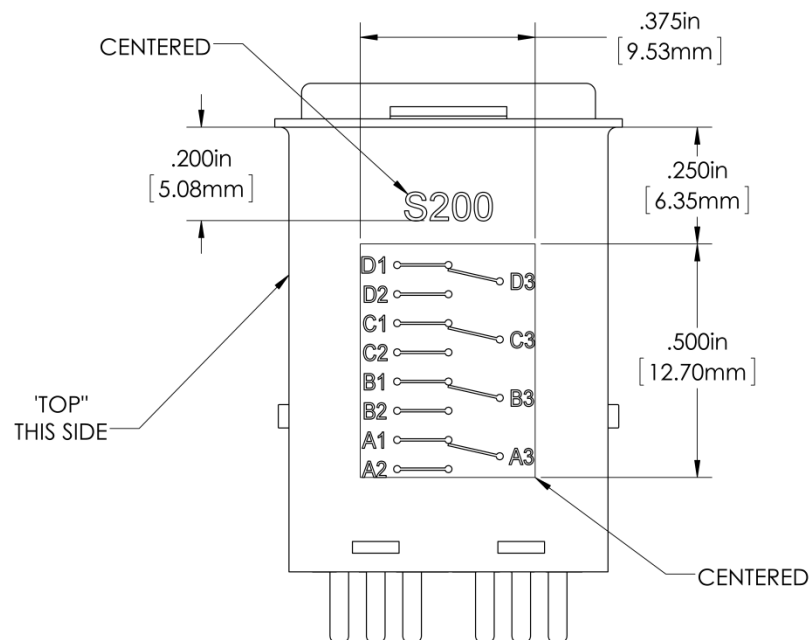
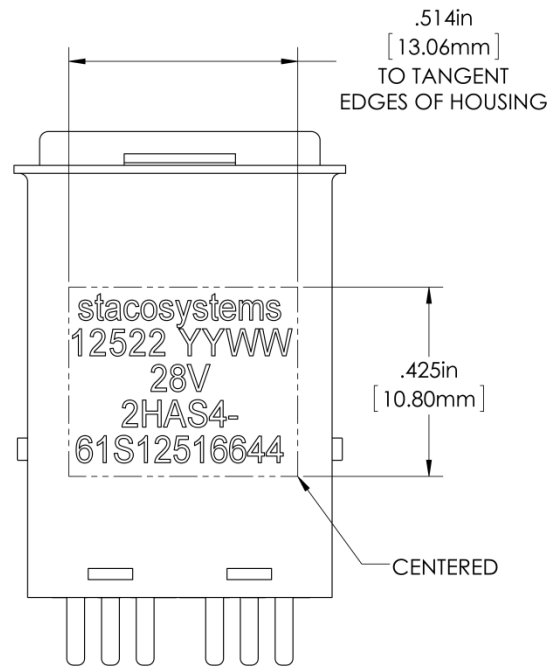
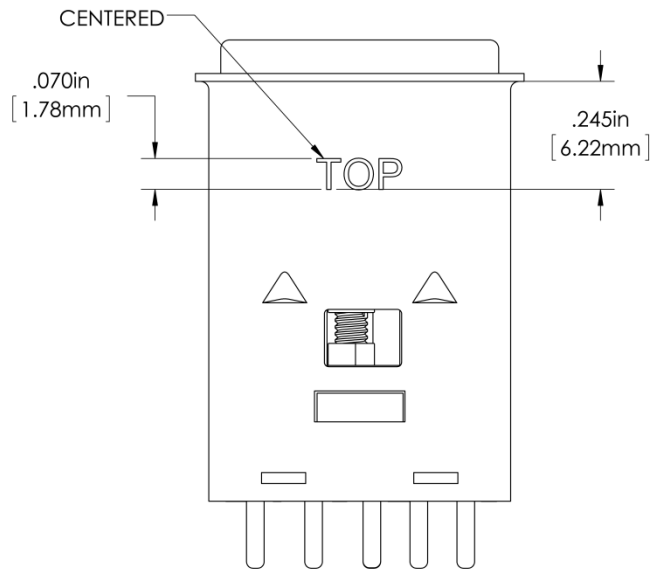

Figure 45: Non-MIL Spec Marking (4 pole & PC Extended Version Shown)
Figure 46: Non-MIL Spec Marking (4 pole & PC Extended Version Shown)
Figure 47: Non-MIL spec marking (4 pole & PC Extended Version shown)
4.8.1.1. For non MIL SPEC parts, the following shall be provided as a baseline and as shown in Figure 45: Non-MIL Spec Marking \(4 pole & PC Extended Version Shown\), Figure 46: Non-MIL Spec Marking \(4 pole & PC Extended Version Shown\), and Figure 47: Non-MIL spec marking \(4 pole & PC Extended Version shown\).